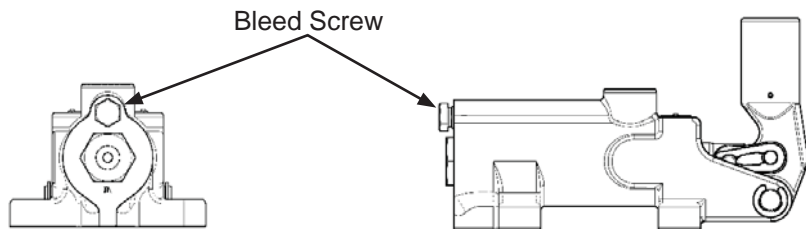

Figure 1
- Visually inspect all hydraulic connections and hoses for leaks and retighten if necessary. This should never be done with the system under pressure. First, release system pressure by loosening the bleed screw on top of the hand pump (Fig 1). Once you are satisfied that no pressure remains, retighten the fitting or replace the damaged hose or component. Retighten the bleed screw on the hand pump. Pump the system up to 3000 PSI. Inspect that the leak has been eliminated.
- Check accumulator precharge. A simple method is to shut the engine off, release system pressure via the bleed screw on top of the hand pump then retighten the bleed screw (Fig 1) and actuate the hand pump. The pressure will rapidly rise and then stabilize. This pressure corresponds with the accumulator gas precharge. If, however, this pressure rapidly rises to 3000 PSI, it indicates that the accumulator has lost part or all of its gas precharge.
- To check the RPA unloading valve integrity, the engine has to be running. The cut out pressure of 3000 PSI is confirmed at the daily inspection (see above). Open the hand pump bleed screw (Fig 1) to reduce the system pressure slowly. Note the pressure reading as the pump starts to recharge the starting system. This pressure should read between 2400 PSI and 2700 PSI. Retighten the bleed valve(Fig 1). The pressure should rise to 3000 PSI at which point the valve should unload.
- In the event the hydraulic accumulator has lost its gas precharge. This can be verified by using the hand pump. After a few strokes of the hand pump, appreciable resistance will be felt, and the pressure will immediately climb to 3000 PSI. Pressure can then be relieved by opening the hand pump bleed screw (Fig 1). In this event the accumulator should be inspected prior to re-applying a gas precharge. In multiple accumulator systems, each accumulator must be checked individually. (A short cranking cycle indicates failure of one accumulator in multiple accumulator systems.)
- Ensure correct system pressure and precharge pressure. As a quick check, release system pressure at the hand pump bleed screw (Fig 1) and retighten screw. Once the hand pump is primed, commence pumping by hand. The pressure indicated on the gauge should increase rapidly until the accumulator gas precharge is reached after which the rise in pressure should be gradual. If the pressure rises rapidly to 3000 PSI it may indicate that no gas precharge is present within the accumulator.
To ensure the safety of the maintenance personnel the following tests must be carried out with the engine shut off and system pressure at zero. System pressure may be released using the bleed screw within the hand pump assembly (Fig 1).